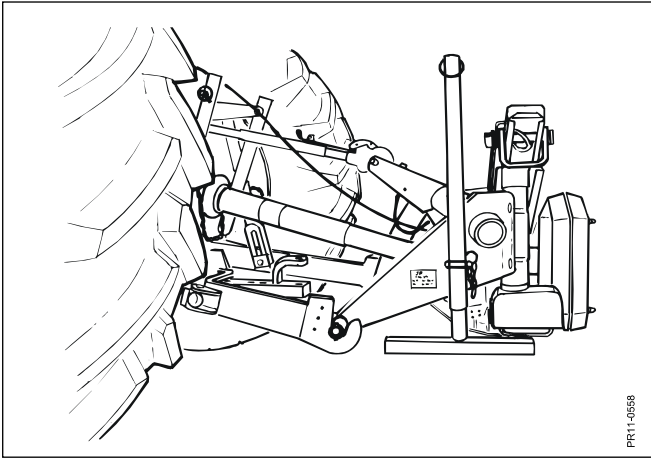

Fig. 2-4
- Fig. 2-4:** When the machine is to stand disengaged, the jack must be lowered to rest on the ground and secured by the special pin.